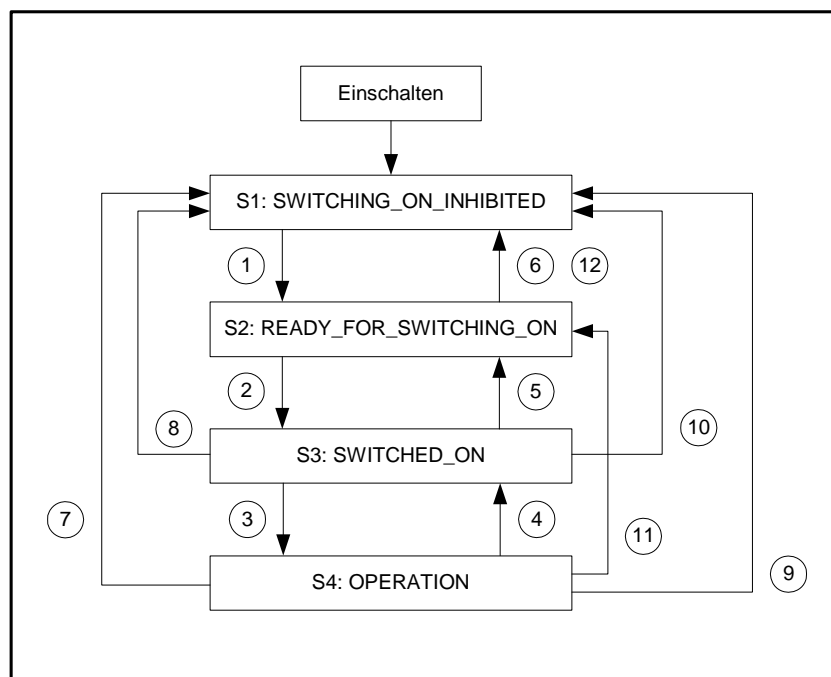

Figure 9.1: Simplified state diagram
The states have been taken over to a large extent from the PROFIdrive specification. PROFIdrive distinguishes between a ramp stop and a quick stop. In firmware 3.0, the controller enabling is deactivated in both cases so that the simplified state diagram shown in Figure 9.1 results.
- 3.) According to the state diagram (Figure 9.1), state transitions 1, 2 and 3 have to be performed.